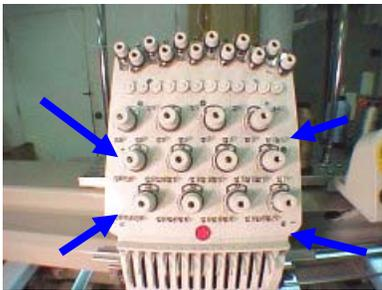

Fig. 1
4. Remove the four screws that hold the face of the tension base to the machine. See fig. 1. The top two are Phillips head and the bottom two are 3mm allen screws. Note: If you place the tension base on the thread stand you won't have to disconnect the wires connected to it.